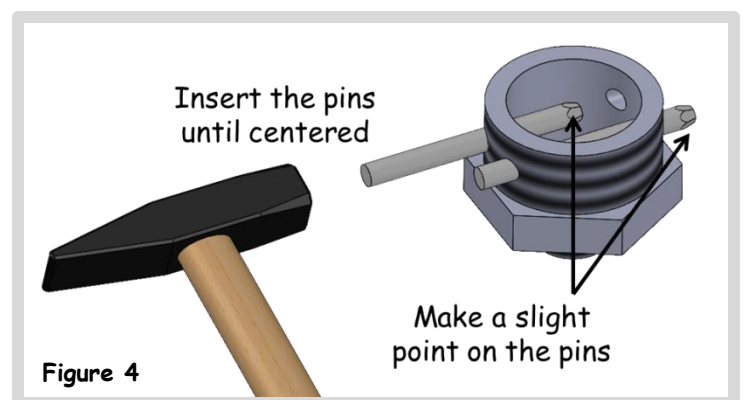

Figure 4
2. Put the *20mm Ball* in the 2" side of the PP reducer and insert the pins according to Figure 4.